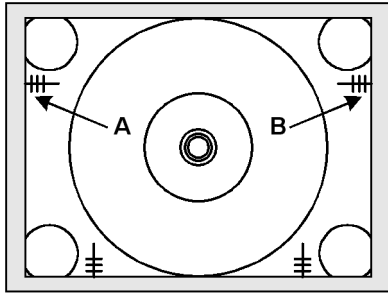

Figure 22. Horizontal centering
1. In the service mode, select the horizontal centering adjustment DAC (C09). Adjust it until locations "A" and "B" are even on both sides of screen, as indicated in Fig. 22.